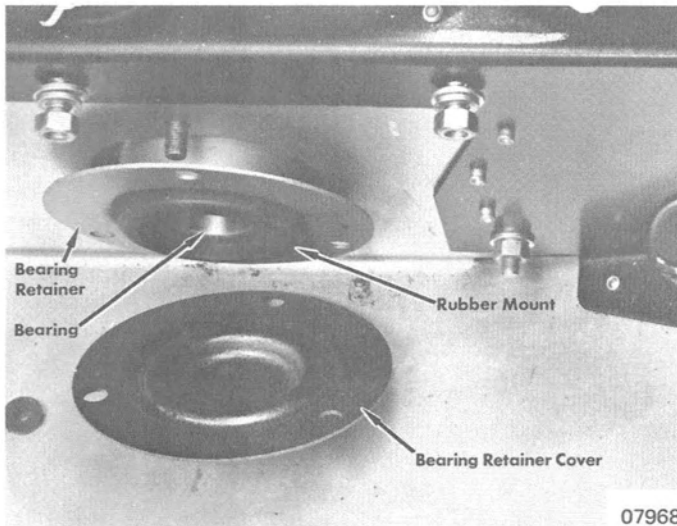

Figure 1. Removal of Bearing Assembly
7. Remove 3 nuts from bearing retainer on right side of chassis. Remove bearing retainer cover, bearing, rubber mount and retainer. (Figure 1)